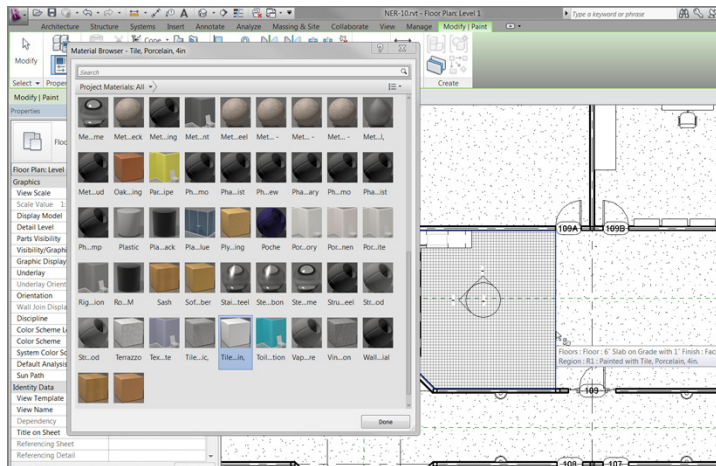

FIGURE 9.74: Selecting porcelain tile
2. Select Tile, Porcelain, 4in from the Material Class drop-down list, as shown in Figure 9.74.